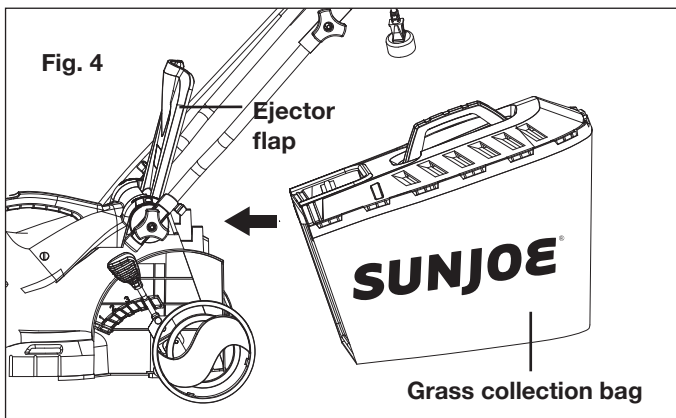

Fig. 4
3. Lift the ejector flap with one hand. With the other hand, hold the grass collection bag by the handle and hook it in from above (Fig. 4).